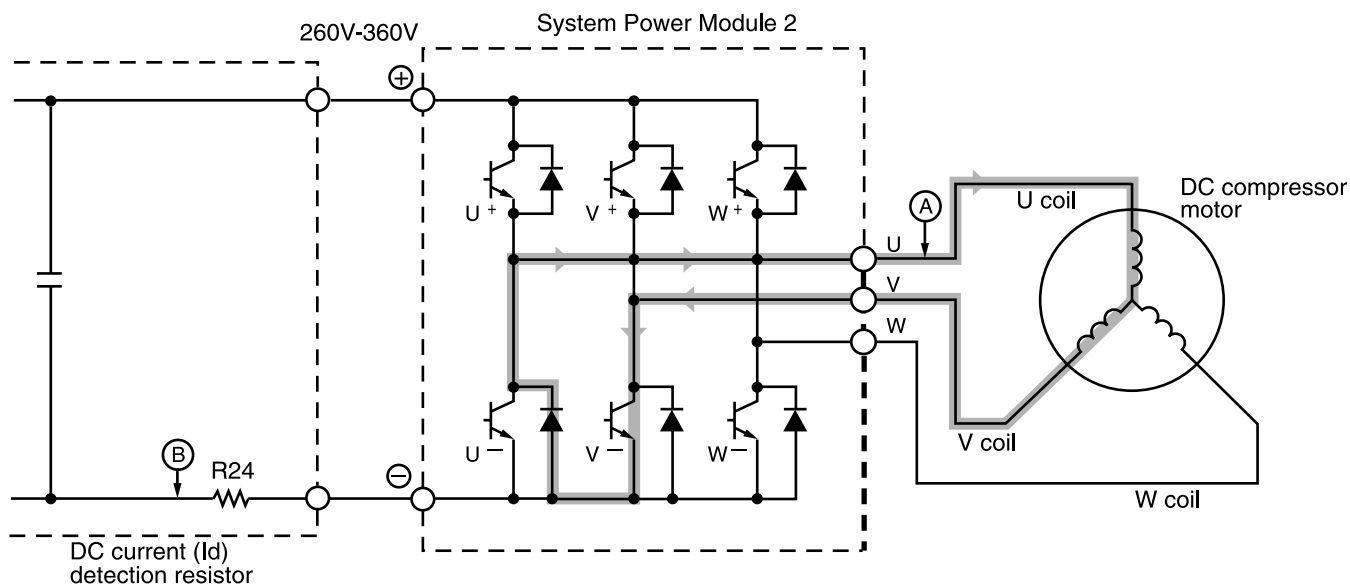

Fig. 3-4 Power module circuit (U⁺ is ON, V⁻ is ON)
At point F: U⁺ is chopped (OFF), V⁻ is ON (circuit in Fig. 3-4)]
- (2) When U⁺ transistor is OFF: (by inductance of motor coil) U coil → V coil → V⁻ transistor → Return diode → Point (A) (Fig. 3-4)